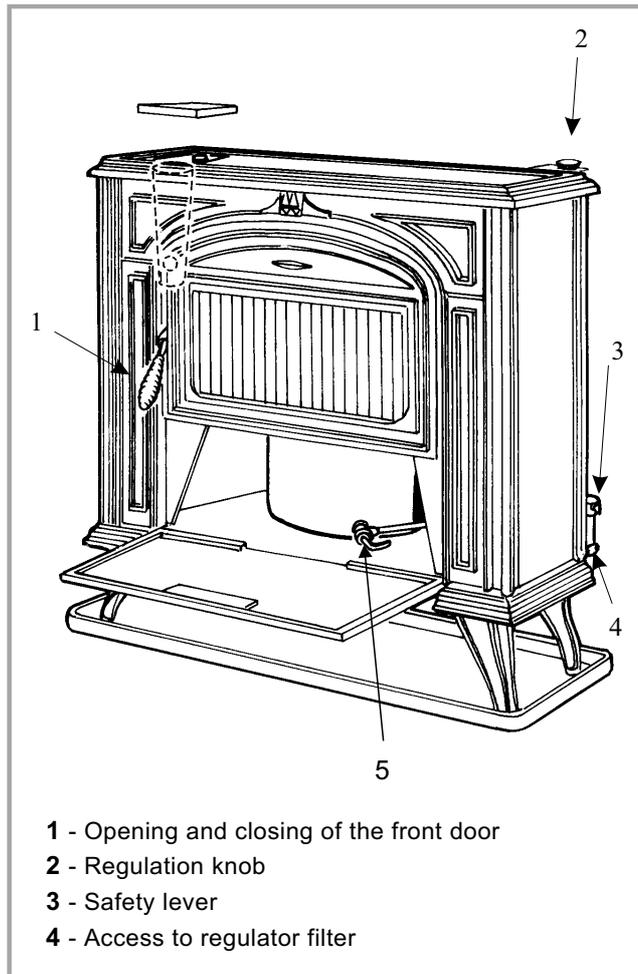

Figure 11 - Operating devices
- Push down gently on the safety lever (# 3 of fig. 11). This will allow the oil to flow into the regulator.